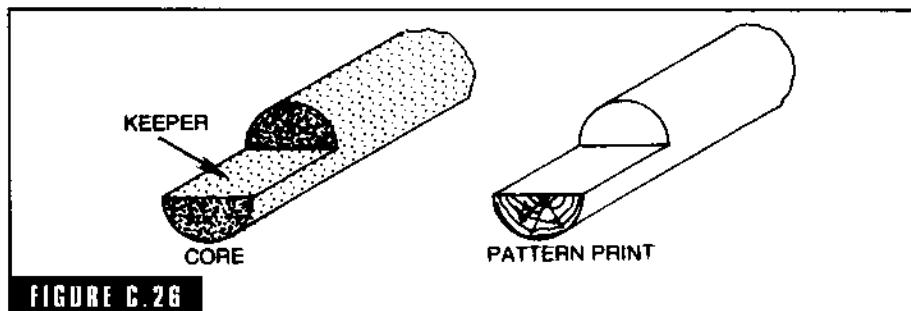

FIGURE C.26
**core marker** The print on a core which is so shaped that it can be set in the mold only one way, matching a corresponding shaped print on the pattern (Fig. C-26). Also known as a *keeper* or *key*.